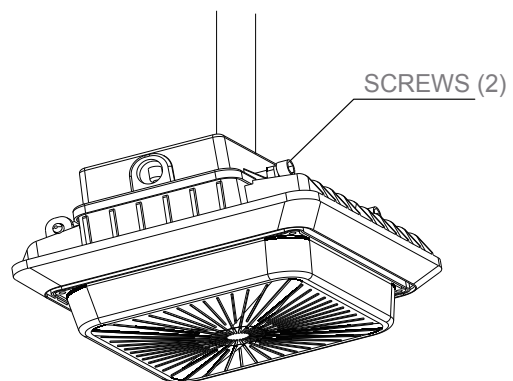

Figure 4
5. Push all wires back into the junction box. Push the Luminaire up and fix it with the Junction Box with the removed Screws (2). See Figure 4.